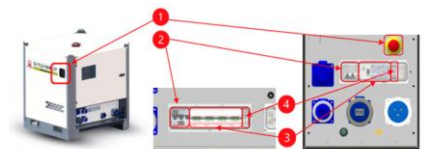

Figure 11 - Power distribution panel
- Make sure the main output MCB and socket protections (Figure 11, items 2 and 3) are set to the OFF position.
- Make sure the emergency stop button (Figure 11, item 1) is reset by twisting clockwise 90°.